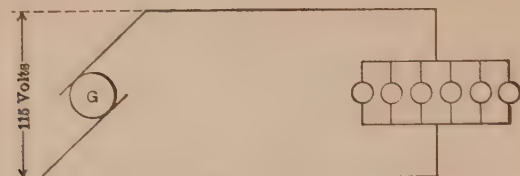

FIG. 87.
**Prob. 75.** Each lamp, Fig. 87, is a 110-volt, 50-watt lamp. If the lamps are 800 ft. from the generator, what size wire, B. & S., must be used?